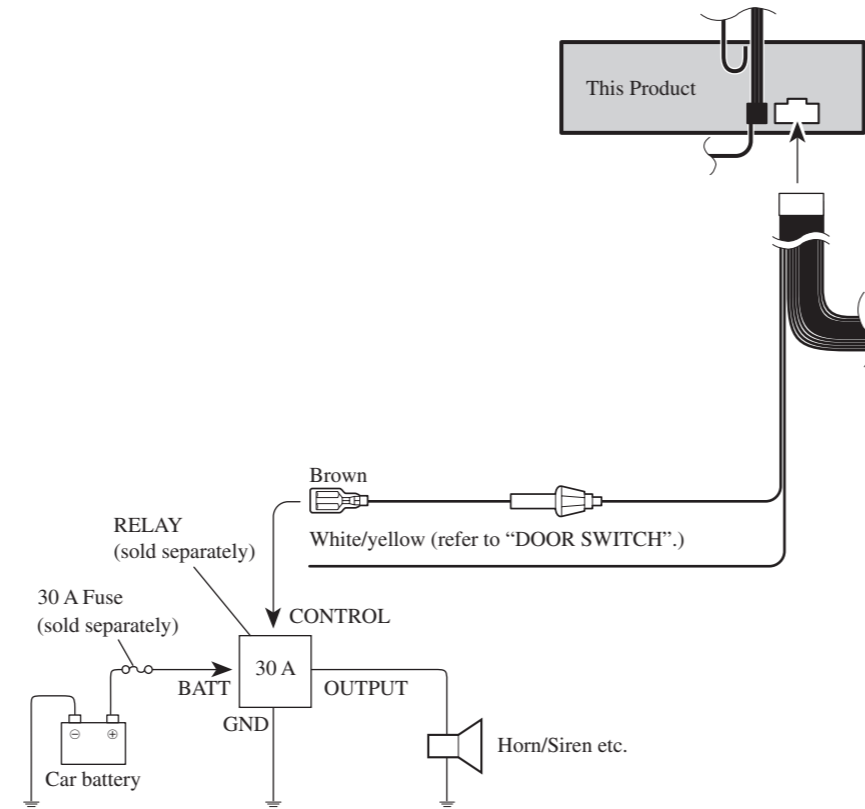

Fig. 6
- Brown (ALARM OUTPUT)** ..... (Fig. 6)